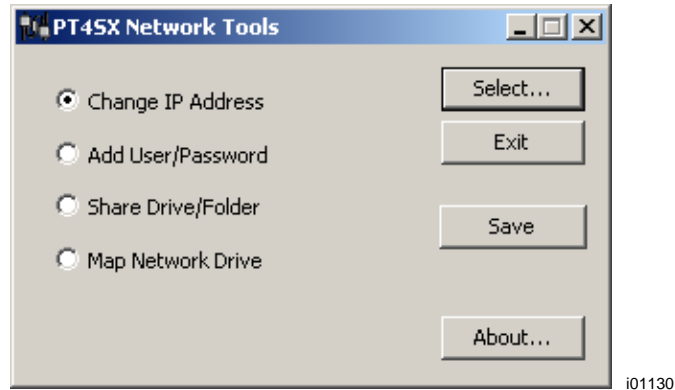

Figure 14.12.5 The PT45X Network Tools box.
1. Press the SYS Hardkey, then the Config Net softkey. The PT4SX Network Tools box appears. See Figure 14.12.5.
6. Once complete, you must now save all changes made. To do so, simply click on the Save button at the network utility window. See figure 14.12.5
There are a handful of utilities on the ProtoTRAK SX in order to aid network set-up for Network Administrators or experienced users. To access these utilities, press the SYS hardkey on the ProtoTRAK SX, then press the Config Net softkey. See Figure 14.12.5 above.